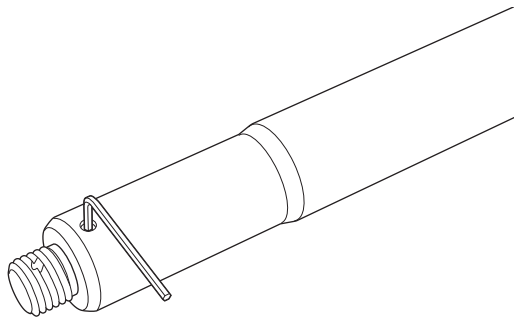

Figure 30: Using Hex Wrench to Loosen M20 Slug Set Screws
- Loosen the set screws using a 2.5 mm hex wrench. Do not loosen so far that the screws fall out of the pole and are lost (Figure 30).